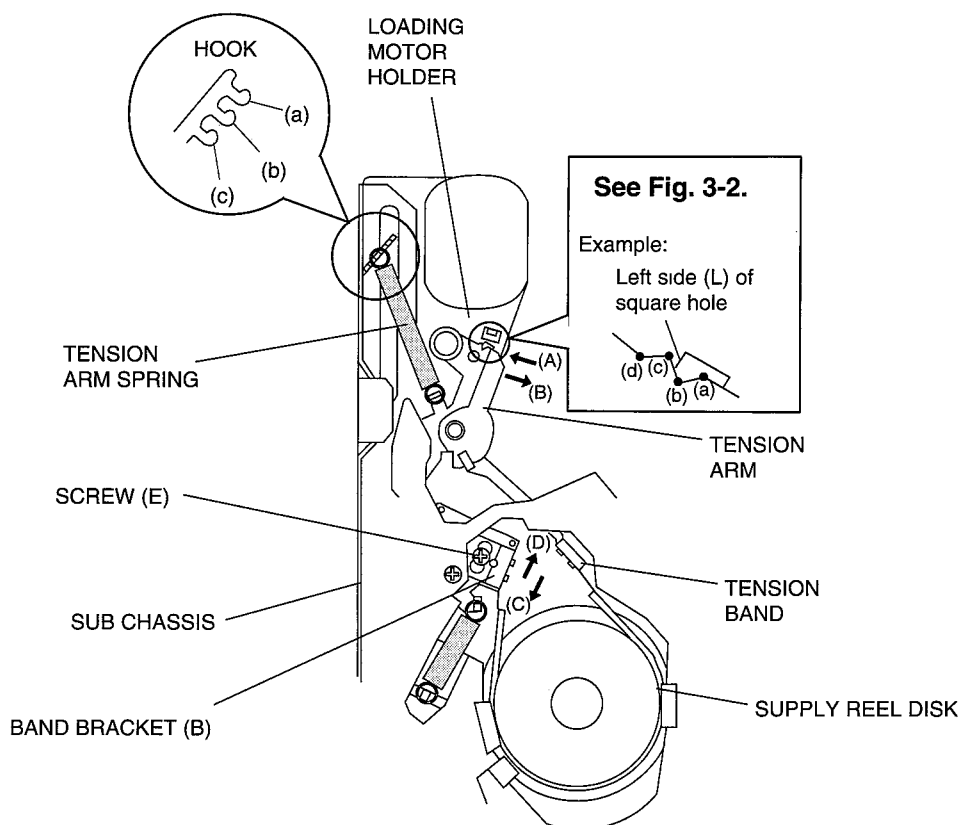
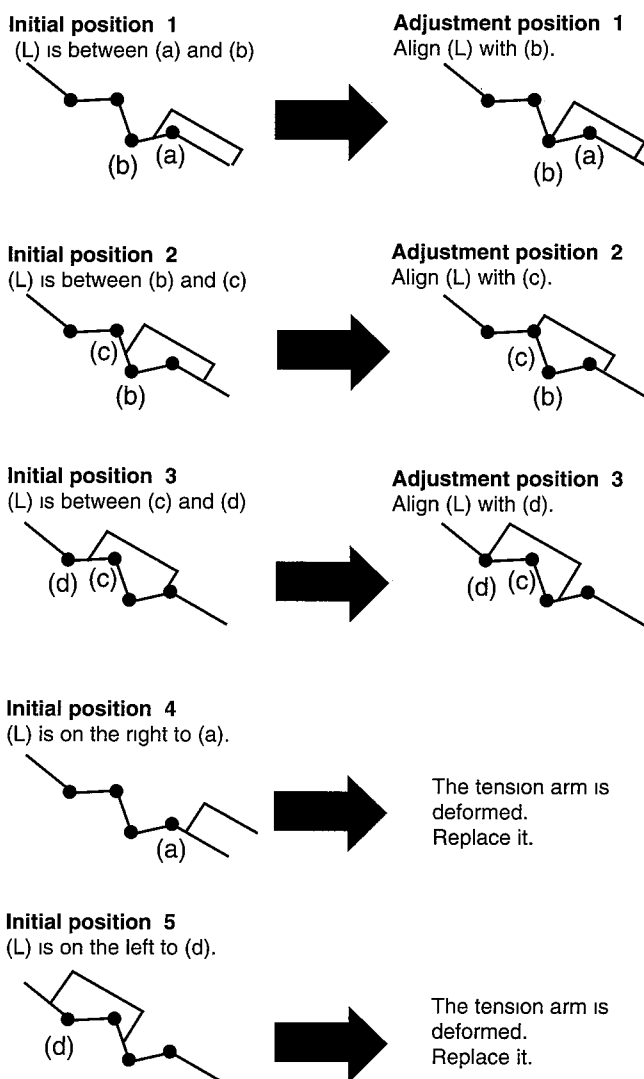

Fig. 3-1
Fig. 3-2
3.1 Tension Arm Position and Tension Torque Check (Fig. 3-1)
- (1) Make sure that the tension arm spring is hooked onto hook (b) on the subchassis. (Fig. 3-1)
- (2) Set the camcorder to the playback mode without inserting a cassette. (See the previous page.)
3.2 Tension Arm Position and Tension Torque Adjustment (Fig. 3-1, 3-2)
- (1) Attach all parts. Loosen screw (E).
- (2) Hook the tension arm spring onto hook (b) on the subchassis. (Fig. 3-1)
- (3) Set the camcorder to the playback mode without inserting a cassette. (See the previous page.)
- (4) Make sure that the tension arm fully moves in the direction of arrow (A).
- (5) Check the position relationship between the tension arm and the square hole in the loading motor holder (initial position). [Fig. 3-2 (initial position)]
- (6) Adjust the position of band bracket B according to the initial position so that the relationship between the tension arm and the square hole in the loading motor holder is as shown in Fig. 3-2 (adjustment position).
- (7) Tighten screw (E) to temporarily fix band bracket B so that it does not move.